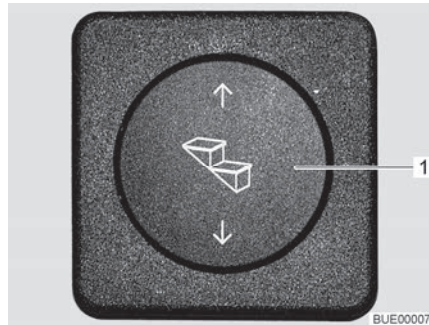

Fig. 1 Operating switch entrance step
- Extending:* ■ Press the rocker switch (Fig. 1,1) down until the entrance step has extended completely.
- Retracting:* ■ Press the rocker switch (Fig. 1,1) up until the entrance step has retracted completely.